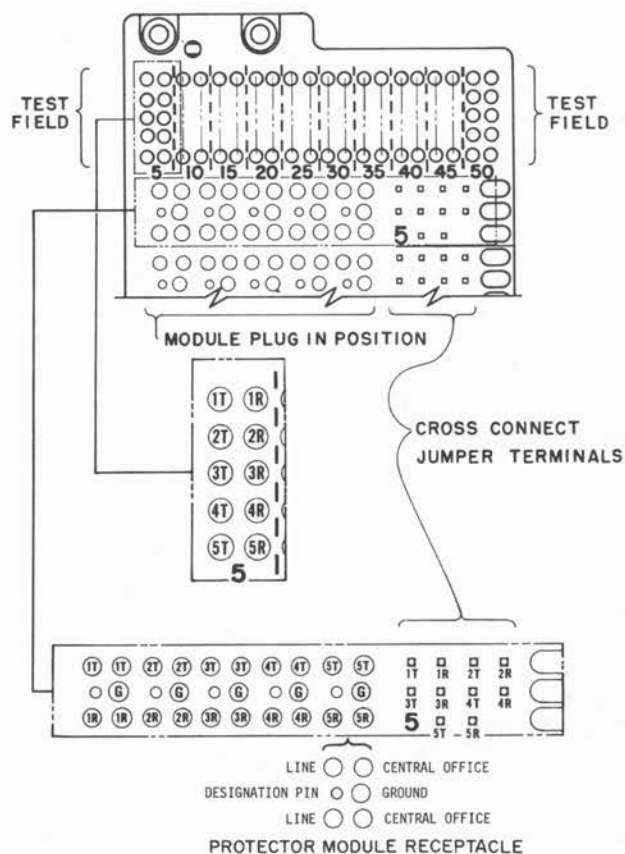
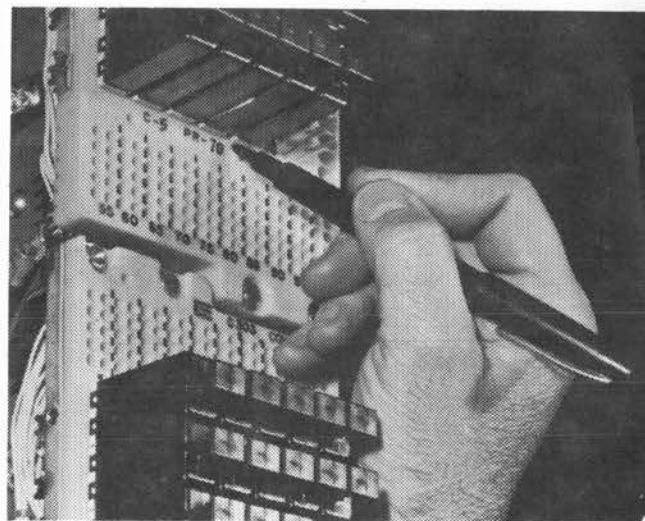

Figure 15
Figure 16
- 7.01 Test Fields. (See figure 15.) Each connector panel test field is permanently pre-marked in black numbers in increments of every five pairs. Each pair of test contacts has tip-left and ring-right. A space is provided immediately above the bottom test field to mark the cable number and pair count. (See figure 16.)
- 7.02 Jumper Field. (See figure 15.) The connector panel is permanently pre-marked in black numbers, with a black dividing line, adjacent to every fifth pair of wire-wrap terminals on the right face of the panel to assist in pair identification when placing central office jumpers.
- 8.01 The C-303 connector base has a 50 pair test field at the top and bottom of each 100 pair unit. This is connected directly to the outside plant cabling and the outside plant terminals of the protector modules. Each test field is grouped in 10 rows of 5 pairs that are clearly marked. (See figures 15 and 18.)